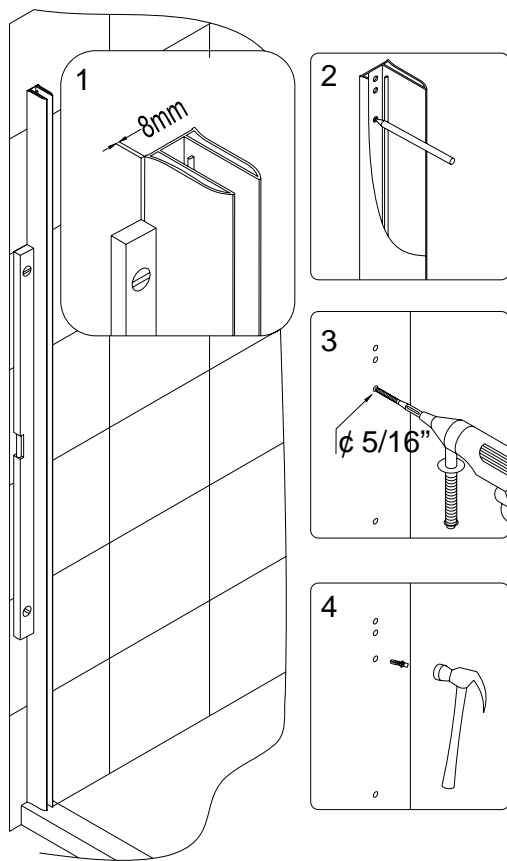

Fig 1
1. Locate the **Wall profile for glass door (1)** and place it vertically against the finished wall. Adjust the profile using a level. From this position make a tilt at the top of the wall profile by 8 mm / 5/16". Use predrilled holes in the aluminum profile to mark holes for drilling. Now drill holes in the wall and insert the **Wall anchors (13)** into the holes. See Fig 1 for details.